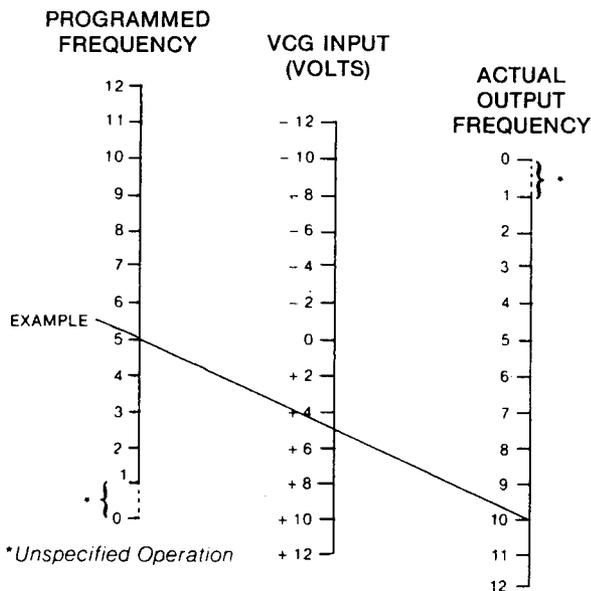

Figure 3-6. VCG (FM) Nomograph
The frequency of the main (non-arbitrary) waveform generator may be controlled by an ac or dc signal applied to the VCG IN BNC connector. A positive control voltage will increase the generator frequency; a negative voltage will decrease frequency. Frequency may be changed by the VCG control voltage only within a frequency range. Table 3-3, Internally Selected Frequency Ranges, shows the frequency ranges and corresponding VCG ranges. Figure 3-6, VCG (FM) Nomograph, illustrates the VCG voltage required to change the programmed frequency to the desired output frequency. (Frequencies in this figure are shown as significant digits, without the range multiplier.) Frequency range must be selected before applying the VCG signal.
For example, Table 3-3 shows that if the frequency is programmed to 500 Hz, the Wavetek 275 selects the 10² range. As shown in the example of Figure 3-6, a programmed frequency of 500 Hz and a +5V VCG input will produce an actual output frequency of 1 kHz.